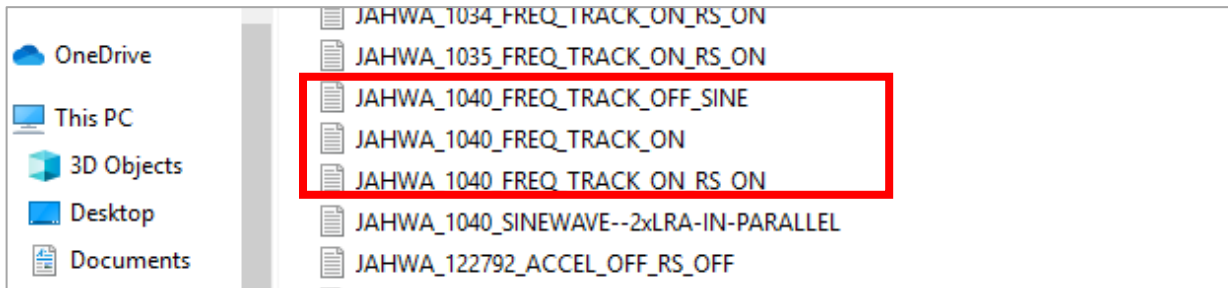

Figure 25. Load file I/O data
2. Select the required .txt download script for the JAHWA LRA from the **Load File** dialog (Figure 25). For the supplied LRA only download scripts with "JAHWA_1040_FREQ_TRACK" prefix.